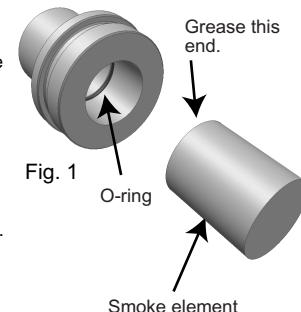

Fig. 1
3. Apply a **thick heavy coat of grease** to the forward end of the smoke element to inhibit burning (Fig. 1).